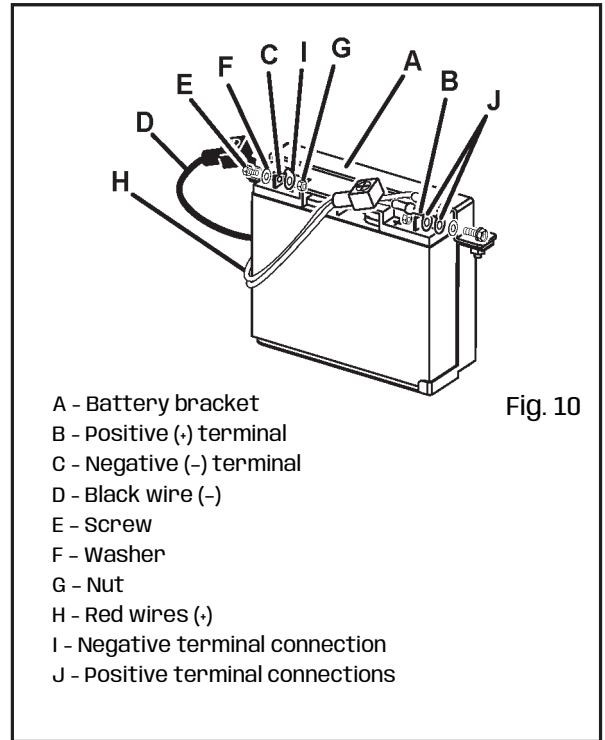

Fig. 10
- Remove the cover from the battery's negative (-) terminal and connect the black cable to the battery's negative (-) terminal as shown in Fig. 10.